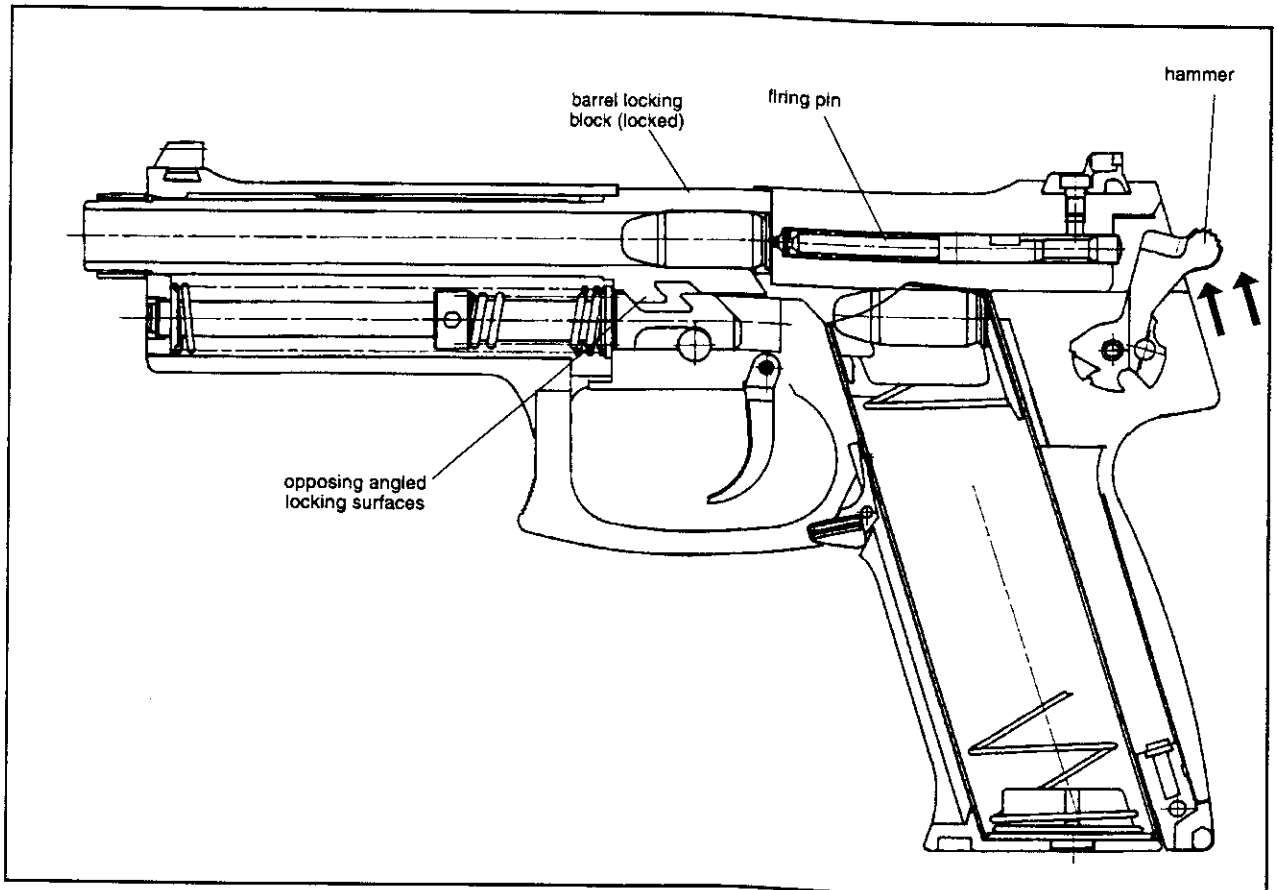

Figure 5 Firing
- A. **Firing** - (See Figure 5) Pulling the trigger rearward pulls the trigger bar forward. The trigger bar pivots the sear actuator upwards which disengages the firing pin block. At the same moment, the sear is pivoted out of engagement from the lower of the two shelves located on the hammer. The compressed hammer spring drives the hammer forward into the rear end of the firing pin. The firing pin strikes the primer of the chambered round. The propellant is ignited by the primer and propellant gases are created inside the cartridge case. The propellant gases drive the projectile down the polygonal bore which spins the projectile in a clockwise direction as a means to stabilize the projectile's flight.
**H. Locking** - (See Figure 5) -The slide presses the barrel forward. As it does, the opposing angled surfaces of the barrel locking block and recoil spring guide rod pivot the rear end of the barrel up into engagement with the ejection port in the slide. The slide is now fully forward and the new round is ready to be fired.